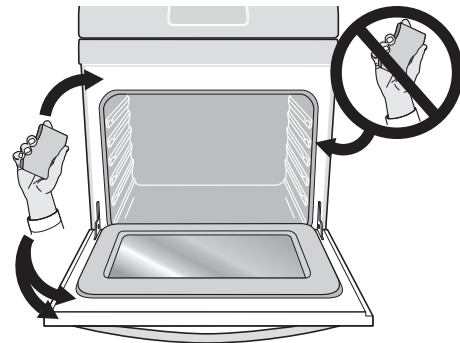

Figure 16: Areas to clean and area (gasket) to avoid
8. When the steam clean cycle is over, stand to the side of the door to avoid any steam escaping the oven. The cycle includes a cool down period allowing you to immediately use a soft cloth or sponge to remove any remaining water. Wipe oven cavity bottom. Do not clean the oven door gasket (**Figure 16**).